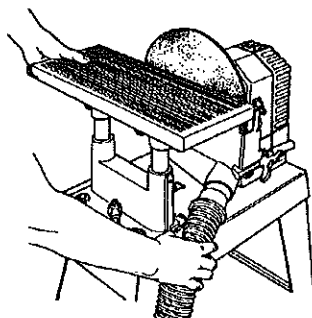

Fig.H-8
10. Attach your Dust Collector hose if you are sanding wood. See Fig.H-8.
11. Plug in the Power Station and insert the safety key (35). You are now ready to disc sand with the Power Station.